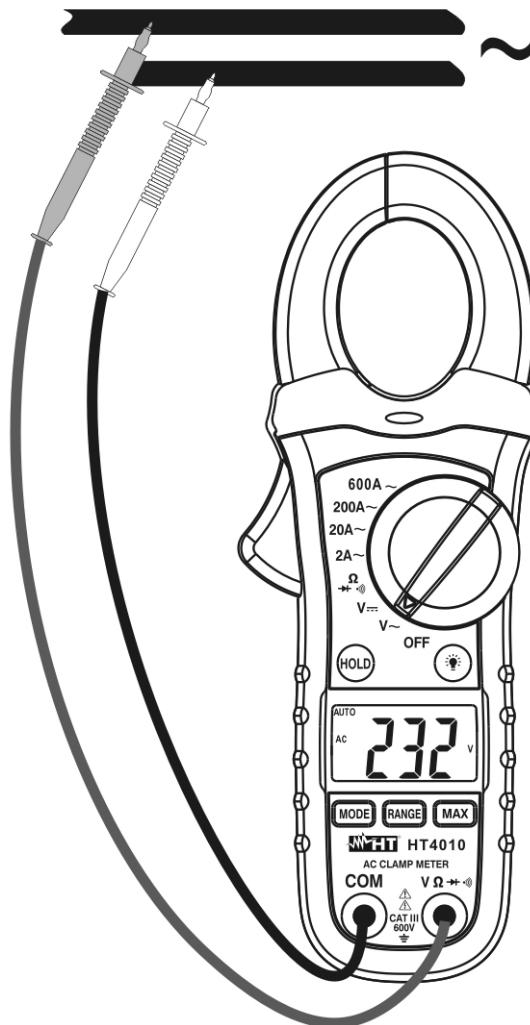

Fig. 3: Taking AC voltage measurement
4. Insert the red test lead plug into **VΩ►••** jack and the black test lead plug into **COM** jack (see Fig. 3)
5. Connect the two long ends of test leads to the desired circuit (see Fig. 3) then reading will be displayed